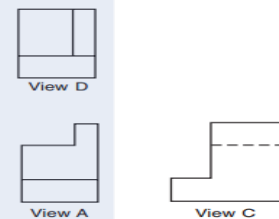

Figure 3
10. Identify the type of projection in figure 3 below